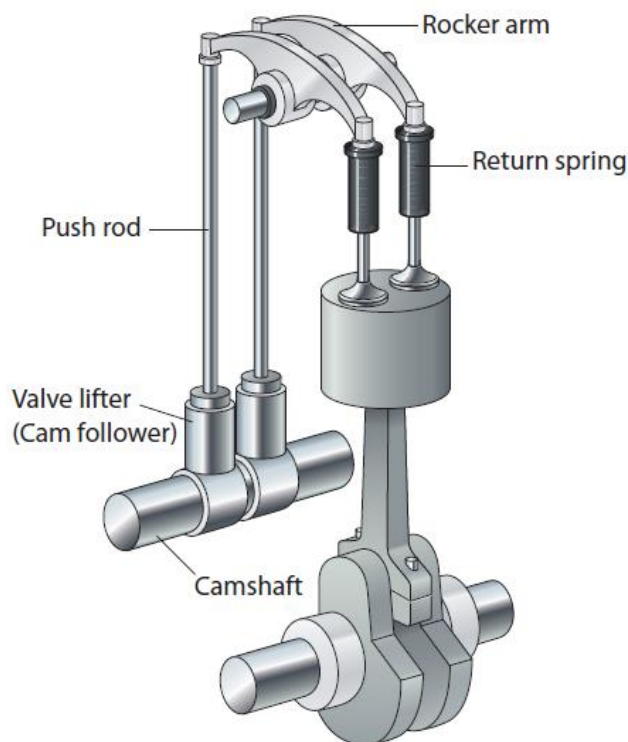

Fig. 17
Install the valve push rods with the cupped ends up, in the holes in the cylinder head from which they were removed. Be sure that the ball ends of the push rods are seated in the tappet sockets (Fig. 17).
- Position the rocker shaft assembly on the cylinder head. Make sure that the ball ends of the rocker arm adjusting screws are seated in the cupped end of the push rod (Fig. 17 above).